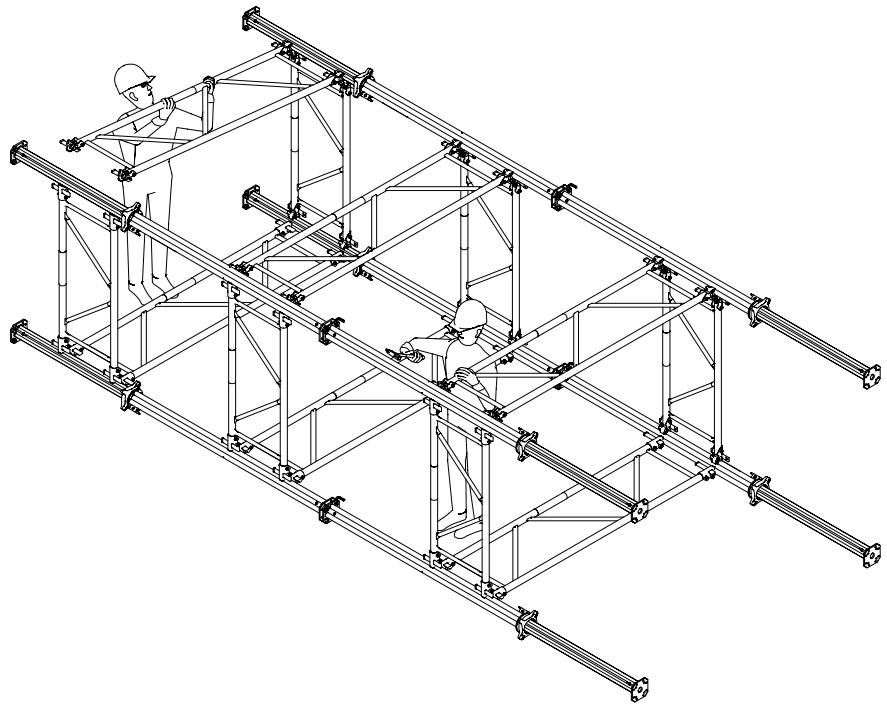

Fig. A3.04
6. Install top frame. (Fig. A3.04)